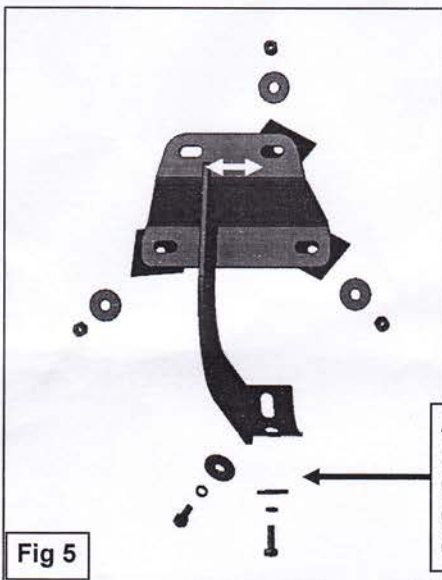

Fig 5
4. Repeat Steps 1—3 to install the (2) remaining center and rear passenger side Brackets.
5. Select the passenger/right Sidebar. Carefully position the Sidebar onto the (3) Mounting Brackets. **IMPORTANT:** Do not slide, (front to back or rotate), the Sidebar on the Brackets or damage to the finish on the Sidebar may result. Attach the Sidebar to the Mounting Brackets with (6) 8mm x 25mm Hex Bolts, (6) 8mm Lock Washers and (6) 8mm Flat Washers, (Figure 5). Do not tighten hardware.